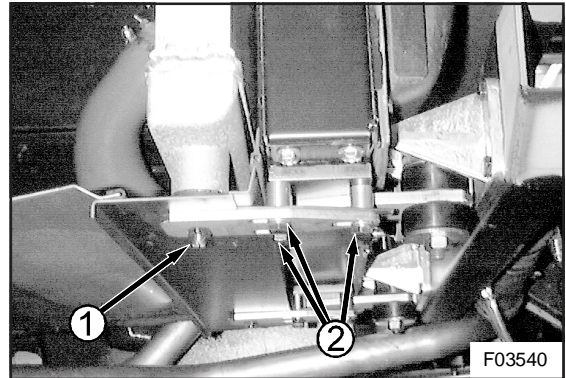

Figure 25: Left intercooler support bracket and mounting hardware
27. Undo and remove the rubber buffer retaining nut (1, Figure 25) and the three capscrews securing the left intercooler support bracket to the radiator (2, Figure 25). Remove support bracket.